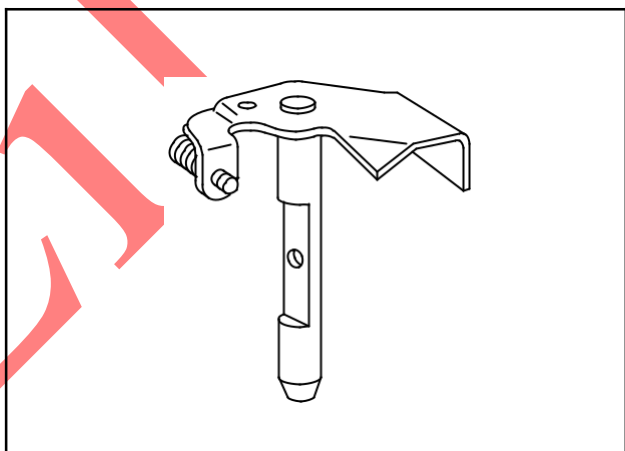

Fig. 148 – THROTTLE SHAFT AND LEVER
1. Throttle shaft, Fig. 148, is removed by using a Phillips or standard screwdriver to remove throttle plate screw.